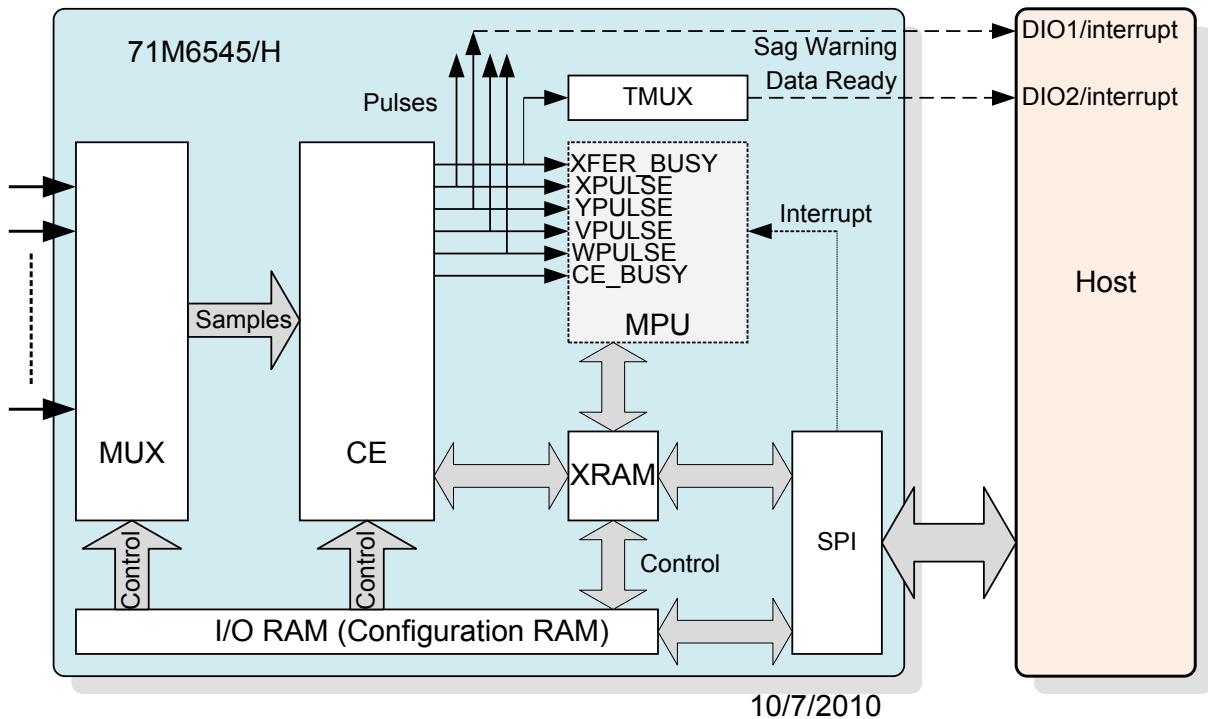

Figure 22: Data Flow
The data flow between the Compute Engine (CE) and the host is shown in Figure 22. In a typical application, the 32-bit CE sequentially processes the samples from the voltage inputs on pins IADC0-IADC1, VADC8 (VA), IADC2-IADC3, etc., performing calculations to measure active power (Wh), reactive power (VARh), A^2h , and V^2h for four-quadrant metering. These measurements are then accessed by the host via the SPI interface, processed further and stored and/or displayed. For example, to obtain the RMS current value in phase A, the host reads the *IOSQSUM_X* register of the CE, scales it with *VMAX*, *IMAX*, and the LSB, as given in the CE Interface description (see 5.4 CE Interface Description on page 100), and then performs a square-root operation. Similarly, momentary real power and reactive power available via the *WSUM_X* and *VARSUM_X* registers only have to be scaled by the host, while the apparent power has to be post-processed as follows:
Figure 22 illustrates the CE-to-host data flow.